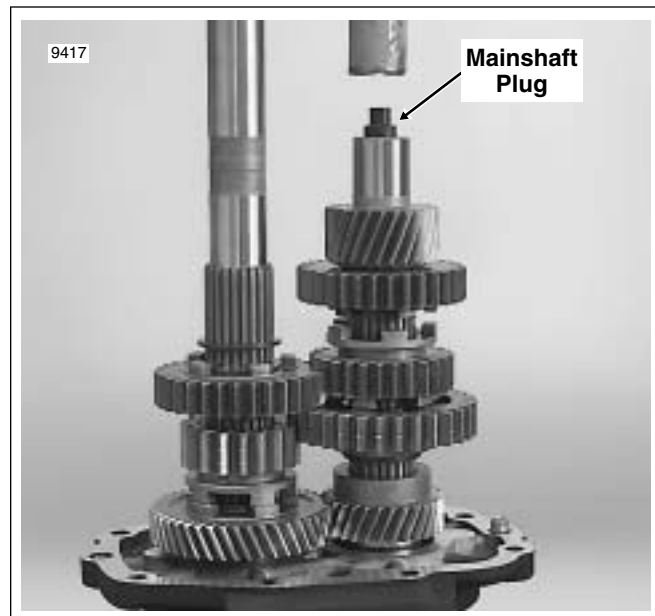

Figure D-6. Press In Countershaft
20. Place mainshaft plug at end of countershaft. Be sure that mainshaft and countershaft gears mesh and that assembly is square. Press countershaft into bearing bore. Remove mainshaft plug. See Figure D-6.